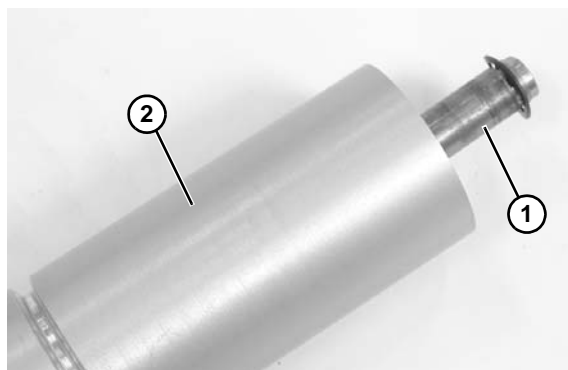

Figure 35
7. Slide the shaft assembly (**Figure 35, item 1**) out of the pulley (**Figure 35, item 2**).